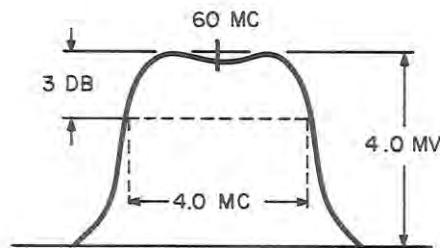

Figure 5-7. 250-500 Mc RF Tuner IF Response Waveform at J2.
- n. The IF response at the tuning head module IF output J2 should be as illustrated in Figure 5-7.